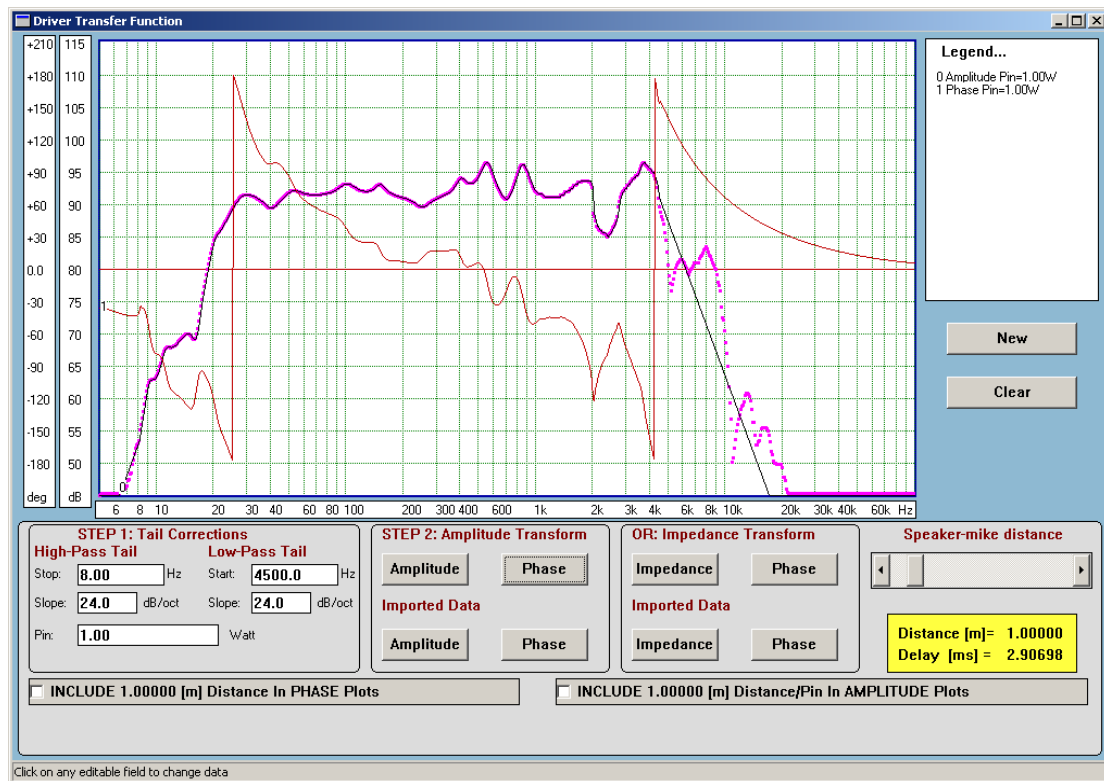

Figure 8. HBT smoothing out the “break-up” region – 4500Hz and 24dB/oct.
**In the next step, we visually estimated the average roll-off in the break-up region above 4.5kHz to be  $-24\text{dB/oct}$  - see Figure 8. Finally, we overlapped the two phase plots to see the difference – Figure 16.38.**